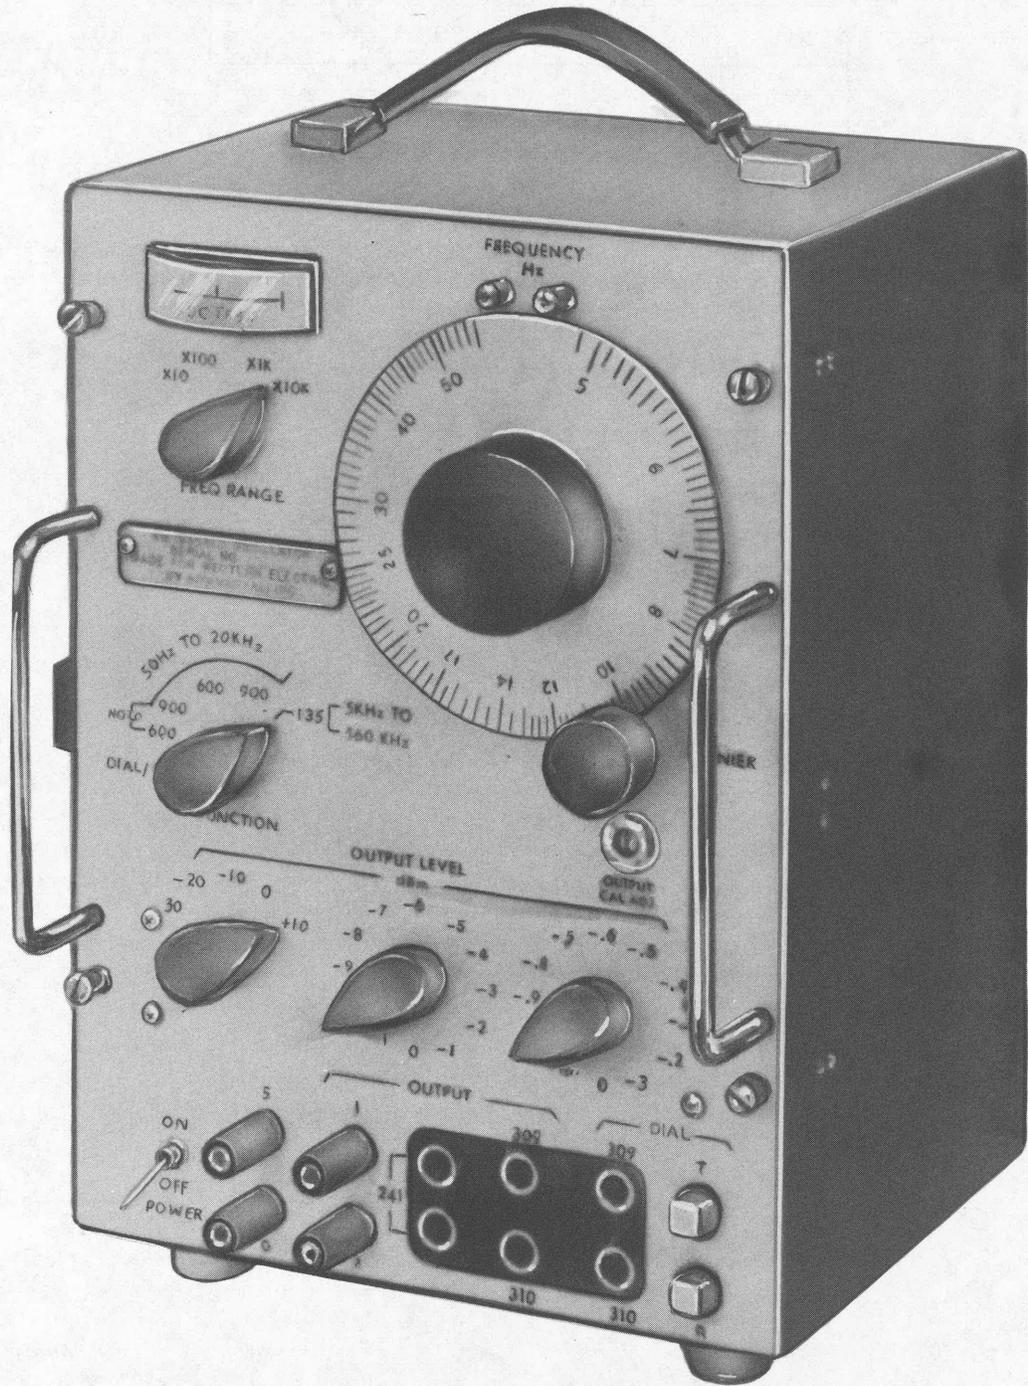

Figure 1—KS-19353 L5 Oscillator
1.03 The KS-19353, L5 oscillator is a portable oscillator having applications in both the voice and carrier frequency ranges (see Fig. 1). Its output frequency can be controlled continuously from 50 Hz to 20 kHz for an output impedance of